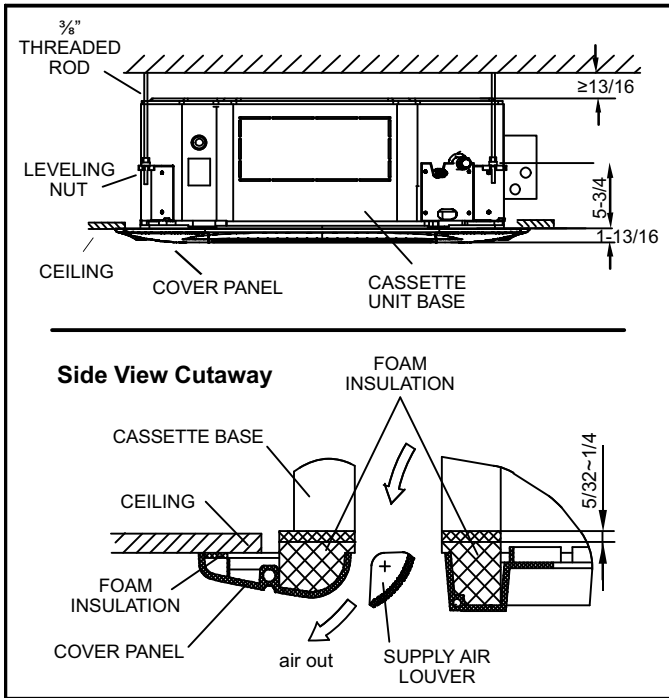

**Figure 15. Remove Corner Covers**
- 3 - Remove access covers from each corner of the panel. See figure 15.